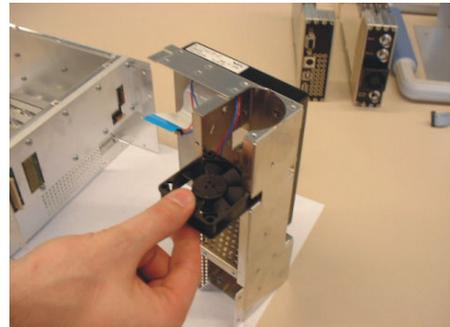

Figure 1-27
10. Route fan cable through opening in front unit and push fan out from aircase unit toward side (see Figure 1-27).